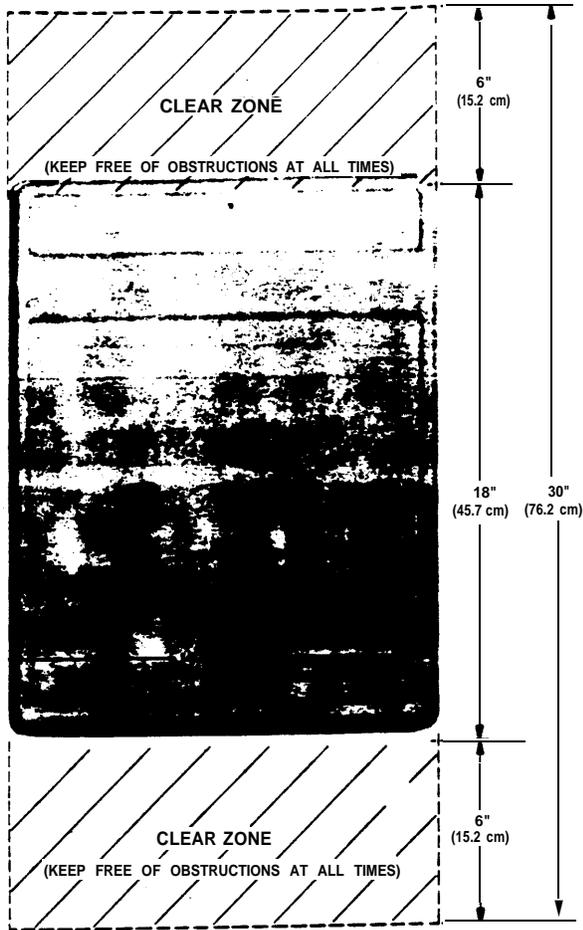

Fig. 5—Mounting Clearances
- (1) Select a wall location which allows at least 6 inches (15.2 cm) of wall space at the top and bottom of the cabinet (Fig. 5) to allow adequate air flow through the unit and prevent possible amplifier overheating and failure.
- (2) Make sure that a 117V ac power outlet is located within 6 feet of the selected location. The outlet should not be controlled by a switch.
- (3) Mount a plywood backboard, if required, on the wall in the selected location.
- (4) Carefully unpack the unit from the carton and inspect for damage. Find the hole-locating template which is included as part of the packing material. **Do not** discard any packing material until you have located the template.
- (5) Mark the location of the 4 mounting screws using the template.
- (6) Fasten the appropriate mounting screws to the backboard in the marked locations.
- (7) Remove the cover from the unit, and mount the unit on the wall by passing the screws through the keyhole cutouts.
- (8) Tighten the screws down on the backplate.